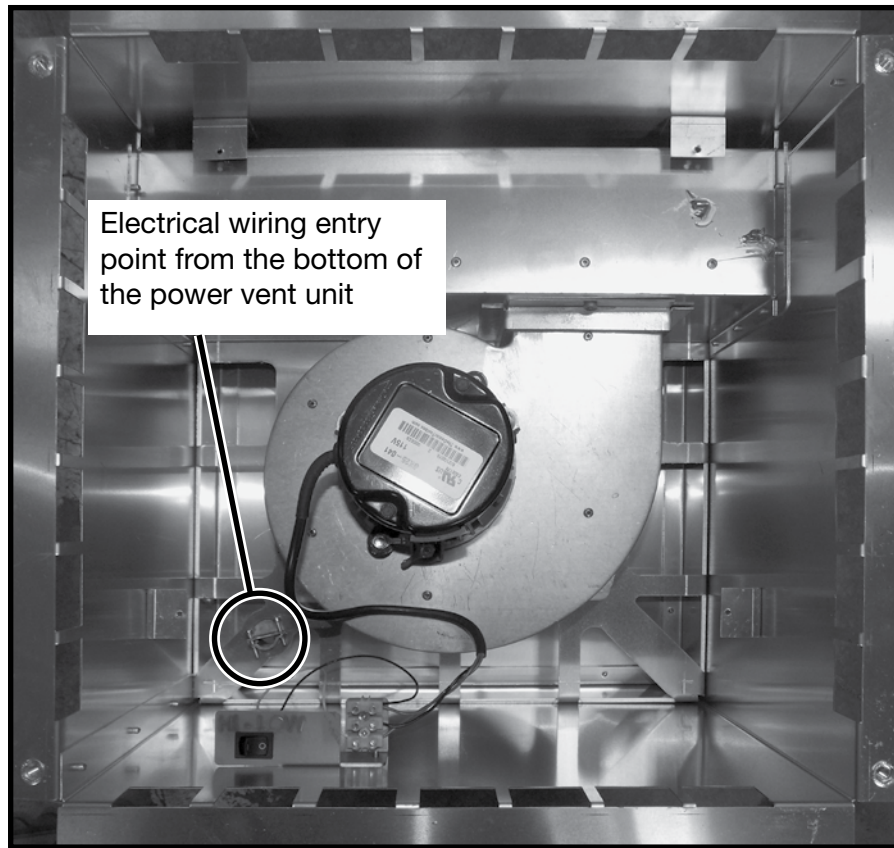
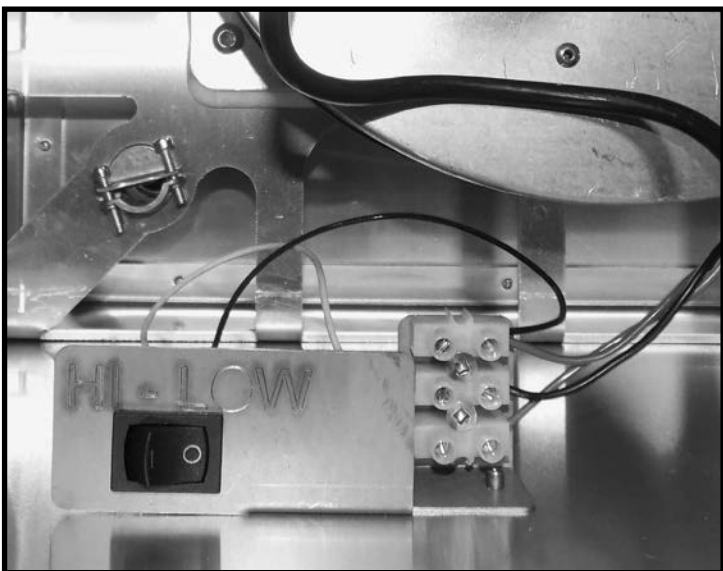
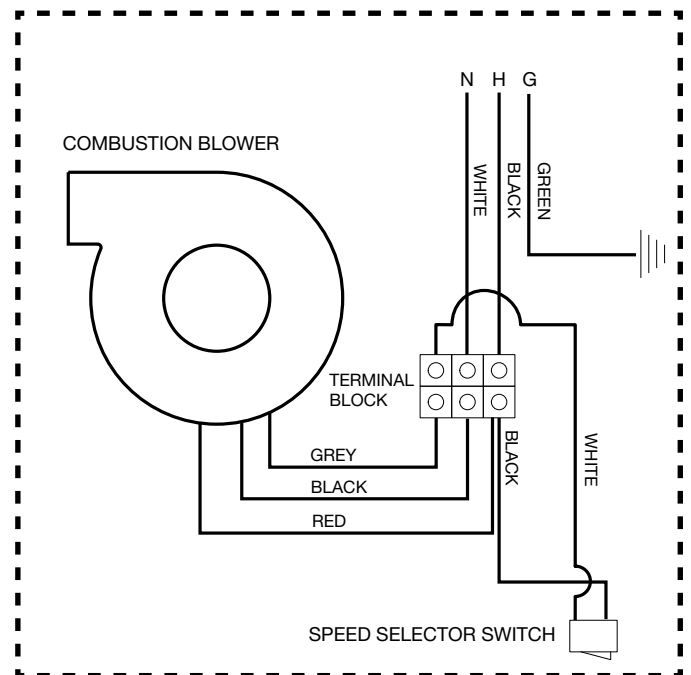

Figure 18: Electrical wiring entry point.
Figure 19: High - Low Switch wiring.
Figure 20: Power vent wiring diagram.
3. Run the electrical supply wire from the fireplace up through the bottom of the power vent and to the connector block inside the power vent assembly (Figure 18). Connect wires as shown in Figure 19 and Figure 20. Connect ground to ground screw and tighten strain relief.